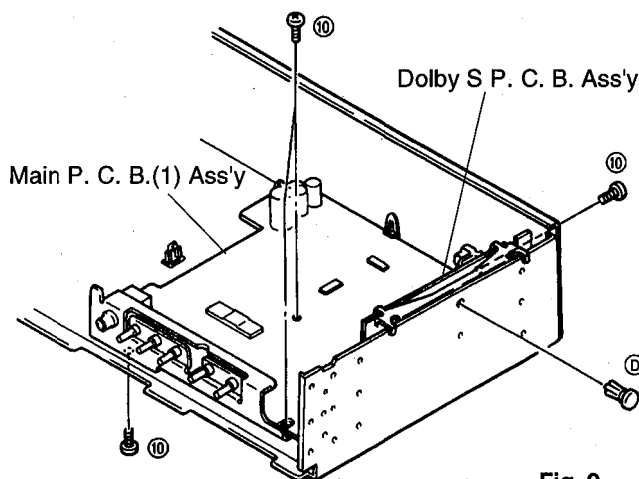

Fig. 9
9. Removal of Main P. C. B.(1) Ass'y and Dolby S P. C. B. Ass'y
- a. Remove 4 screws (⑩) and 1 plastic rivet (ⓑ) in Fig. 9.